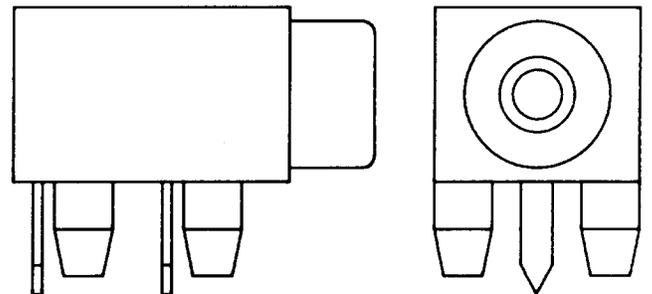

Fig. 9—KS-21825, L1 and L2, Jacks
2.05 **KS-21825, L1 and L2:** The KS-21825, L1 and L2, jacks (Fig. 9) are pin jacks with two sleeve contacts that are bridged when an 0.080 inch diameter pin is inserted into the jack. The jack has two tabs for soldered connections and two mounting feet for mounting to a PWB. The L1 and L2 are furnished with red and black housings, respectively. It is used in the D4 channel bank.